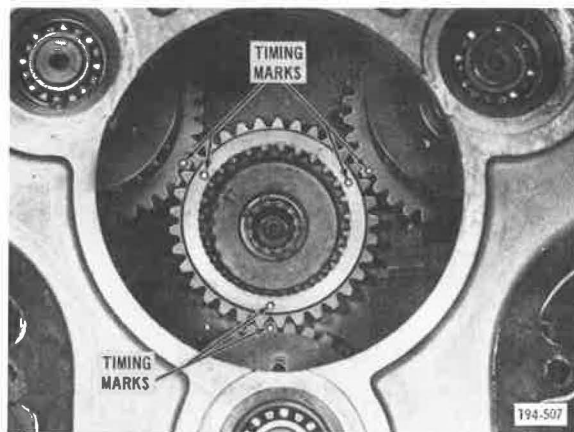

Figure 371. Aligning O-marks
6. Align the timing O-marks on the main drive pinion with the O-marks on each of the countershaft gears, and mesh gears. See Figure 371.